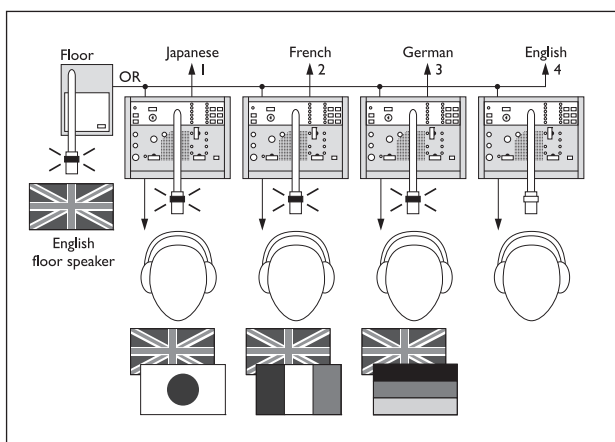
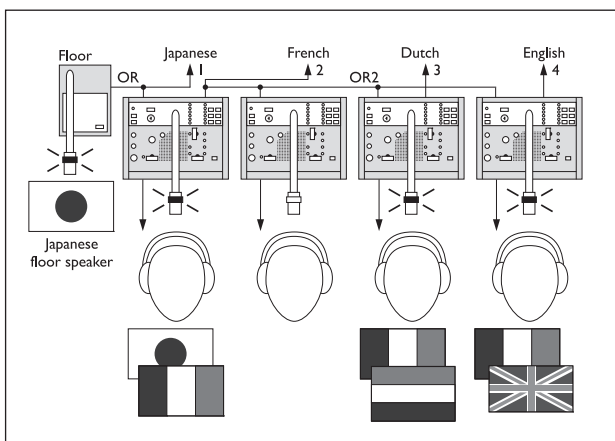

Figure 1.5 Normal operation (OR1 active)
Figure 1.6 Relay interpretation using the auto-floor feature (OR2 active)
In the normal operational mode (shown in figure 1.5), where the original floor language (OR) is familiar to all interpreters, they will listen to the original floor language for interpretation. The translations are then fed to the appropriate language distribution channels. In a situation where interpreters are unfamiliar with the floor language and therefore unable to interpret it, the system offers an automated relay interpretation facility ('auto floor' - see figure 1.6).
In the example in figure 1.6, Japanese is the OR and the auto-floor facility is enabled on the Japanese interpreter desk using the set-up selector DIL switch under the removable panel (the outgoing OR2 indicator is illuminated on this desk). This interpreter selects outgoing channel B and automatically relays a French translation as OR2 to all other desks for interpretation and also feeds the French language distribution channel. The incoming channel OR2 indicator shows on all other desks that auto floor is active.